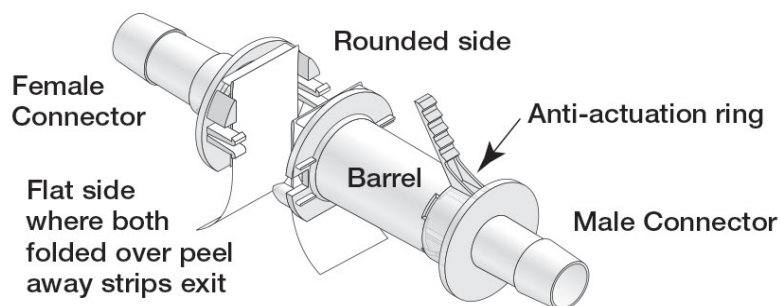

Figure 5.29. Flat sides of connectors aligned.
2. Hold the barrel of the larger (male) Kleenpak connector above the base. Align the smaller (female) Kleenpak connector with the male connector. The flat sides should be aligned, and both peel-away strips should remain folded (Figure 5.29). **Note:** If the Kleenpak connectors are not aligned properly, the connection cannot be made.